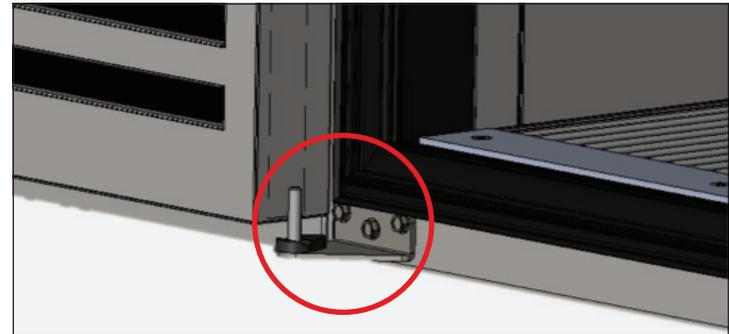

Fig. 3. Lift the door off the bottom hinge.
3. Remove the bottom hinge assembly from the cabinet. See fig. 3.